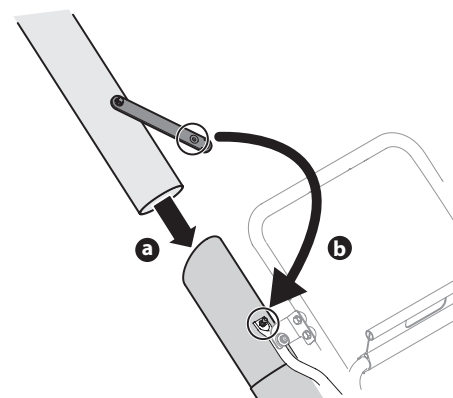

Figure 13
- Secure strap on hose extension to pin on hose assembly. See Figure 13.